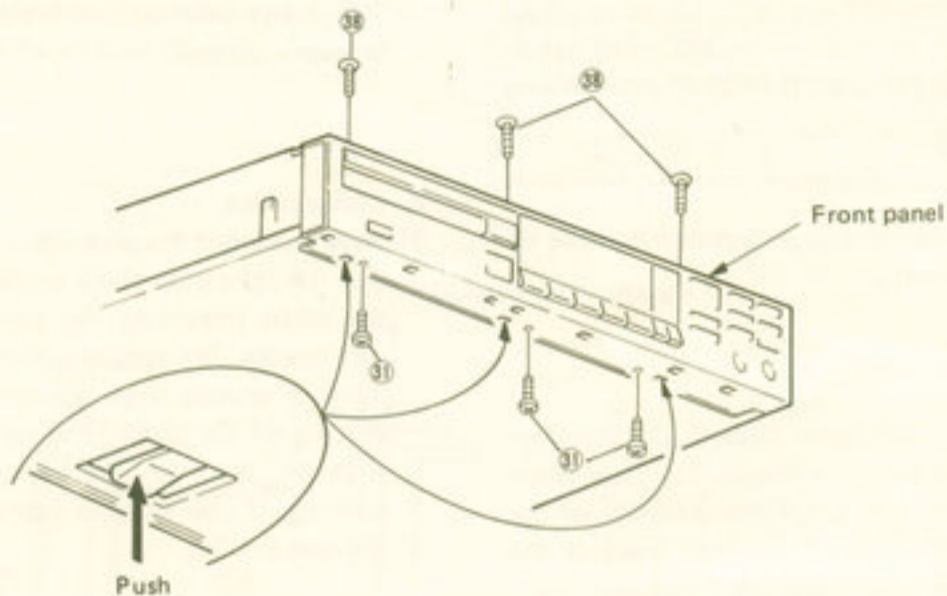

Fig. 1
1 Remove three screws (38) and three screws (31) securing Front Panel. (Figure 1)
2 Push three hooks on the bottom of the Front Panel with a ⊕ screwdriver, and draw the Panel forward releases hooks to detach the Front Panel from the chassis. Further, the Front Panel and the P.W.B.'s are linked with connectors, remove them as necessary. (Figure 1)